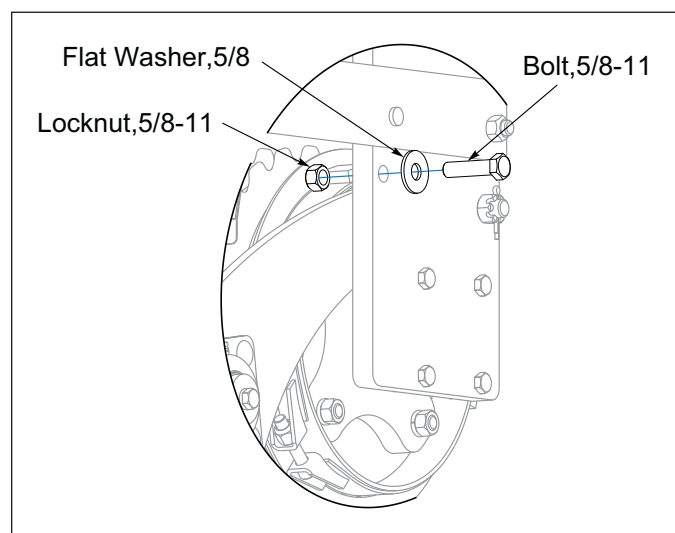

Figure 2-7: Shipping Bolt
5. On the right side of the Seeder Frame, in a similar position as the Parking Pin, remove the 5/8-11 Shipping Bolt that also locks the Rear Roller down. **See Figure 2-7.**
6. On the right side of the Seeder Frame, in a similar position as the Parking Pin, remove the 5/8-11 Shipping Bolt that also locks the Rear Roller down. **See Figure 2-7.**